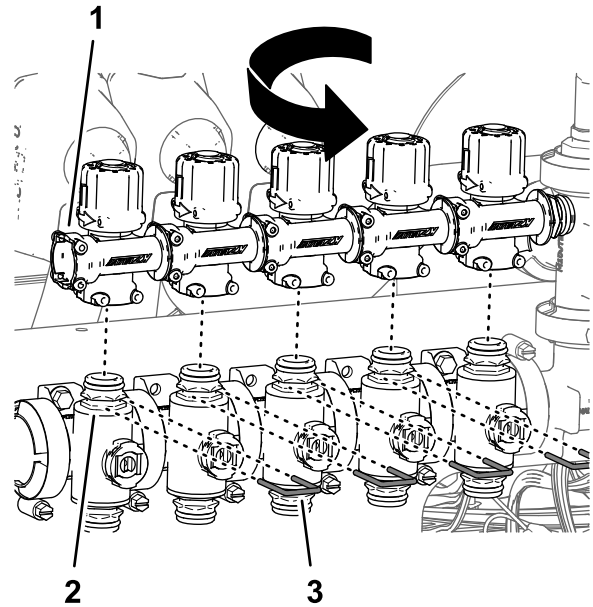

Figure 100
6. Rotate the bypass valves 180° and assemble them onto the quick disconnect fittings of the section valves (Figure 100).
7. Secure the bypass valves to the section valves with the retainers (Figure 100) that you removed in step 4.
9. Assemble the caps onto the quick disconnect fittings of the bypass valves for nozzle-valve 5 and nozzle-valve 6 with the retainers provided with the caps (Figure 100).